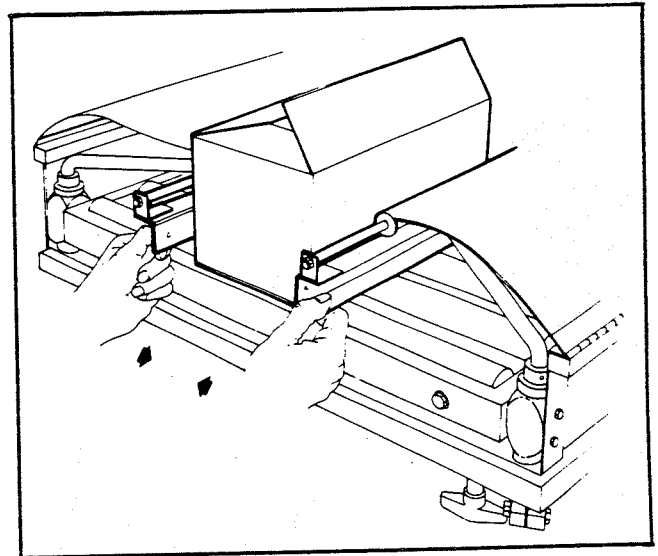

Figure 25 - Side Guides
4. Manually move the side guides to within approximately 1 inch or 25 mm of each side of the box when the box is centered on the infeed conveyor, as shown in Figure 25. Do not push against box sides as some clearance is necessary for feeding boxes onto infeed conveyor.